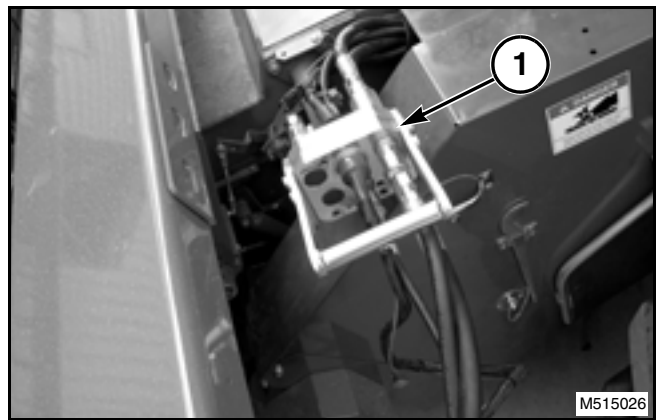

FIG. 58
FIG. 58: Connect the single point header (1) connector to the single point connector on the machine by aligning the header connector with the machine connector and locking the overcenter latch.